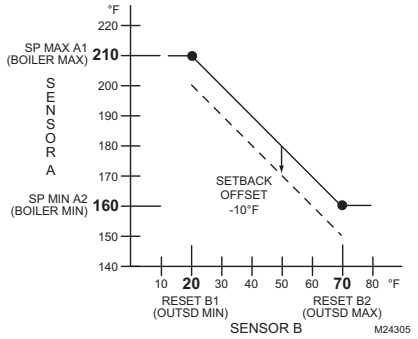
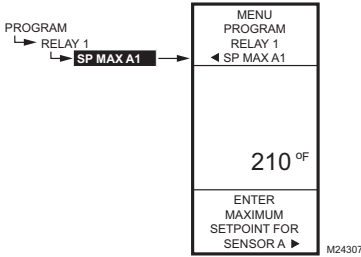

Fig. 25. Reset Curve for First Output with Setback Offset.
Fig. 28. Program - Sensor A Max. Setpoint.
To program an output for Reset, refer to the values as shown in the examples below and in Fig. 25 on page 13. Choose your own appropriate values for Sensor A maximum and minimum and Sensor B maximum and minimum.
**Reset Example:** (Refer to Fig. 25 on page 13)
**Setback (optional) Example:** (Refer to Fig. 25 on page 13)
The remainder of this section, beginning with "1.2. Entering Program Mode", describes the individual parameters for configuring outputs with Reset. For your reference, the following Reset programming procedure uses the values in Fig. 25.
The Reset settings (Figures 28 through 31 on page 14) are programmed for the first output and these settings apply to all outputs that are configured for Reset. See Fig. 25 on page 13 for the reset curve values used in the following section.